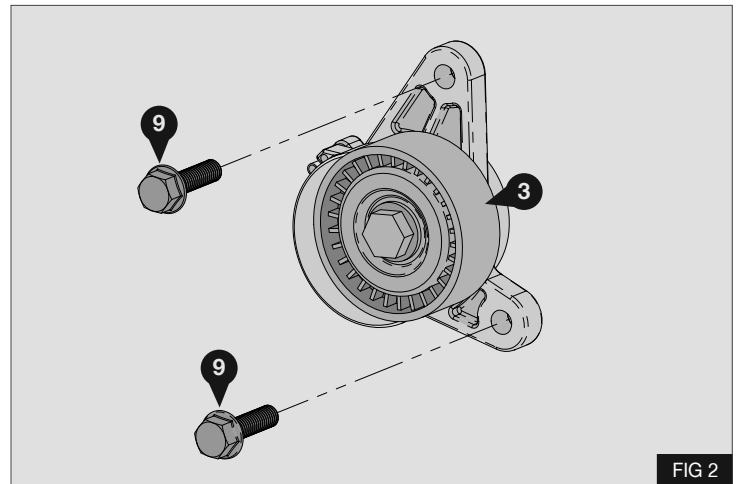

FIG 2
3. Secure the automatic tensioner (3) using 2x M8x30 bolts (9) - Fig 2